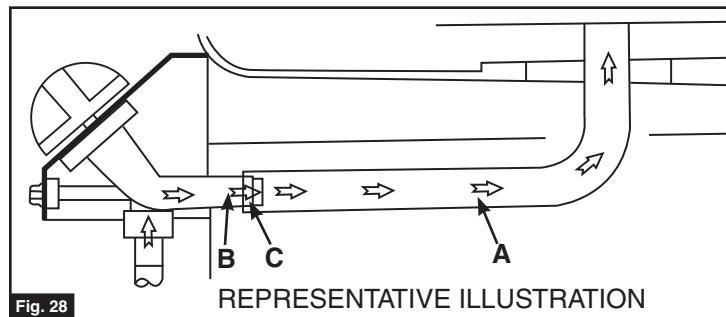

Fig. 28
- Check that all the burner venturi [A] are set over the valve outlets [B] correctly. The valve orifice [C] must be inside the venturi. (Fig. 28)